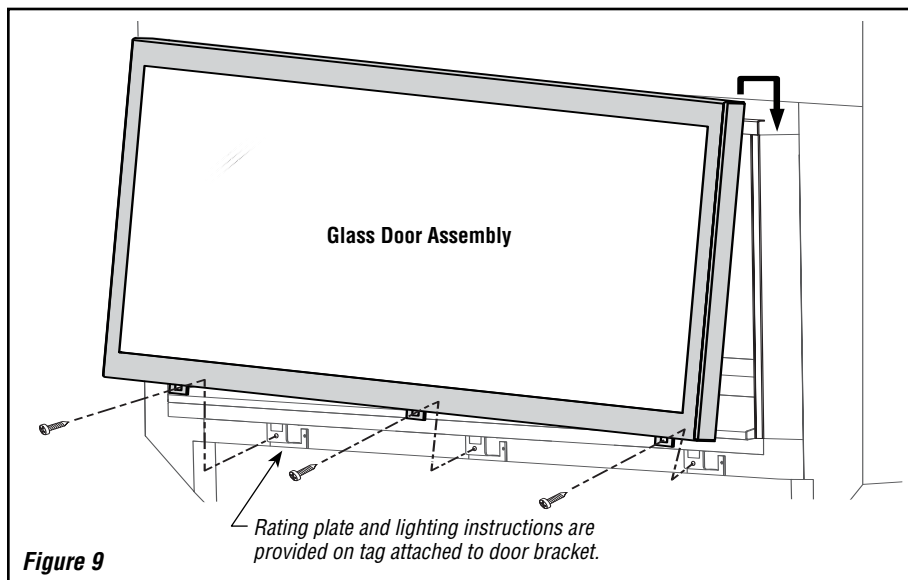

Figure 9
1. While holding the door assembly by the side edges, hook the top edge to the fireplace, and then swing the bottom edge in toward the fireplace (*Figure 9*), **taking care not to damage the glass.**